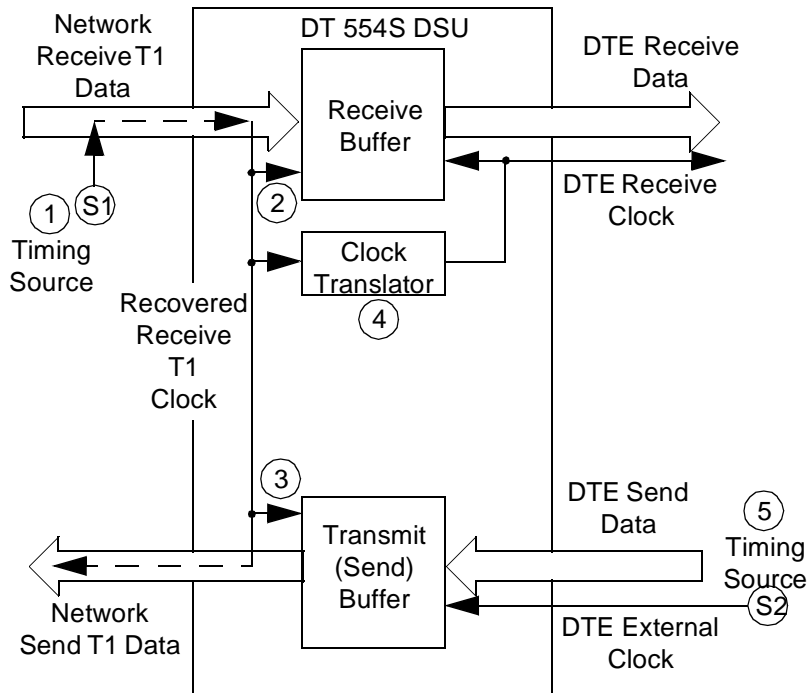

Figure C-4 DTE Split Timing
DTE Split Timing, illustrated in *Figure C-4*, is a combination of Receive Timing and DTE Timing that utilizes two clock sources. As in Receive Timing, the network (or a device at the remote end) provides one timing source (1). The DT 554S DSU recovers the receive T1 clock from the network receive T1 data and uses it to clock T1 data into the receive buffer (2) and to provide the send timing source for T1 data output from the transmit buffer (3) to the network. The DT 554S DSU also translates (4) the receive T1 clock to provide the receive clock signal, on the appropriate interface lead. As in DTE Timing, the customer equipment on the channel interface provides the other timing source, its own channel transmit clock signal (5) on the appropriate interface lead, but the DT 554S DSU uses it for nothing else.